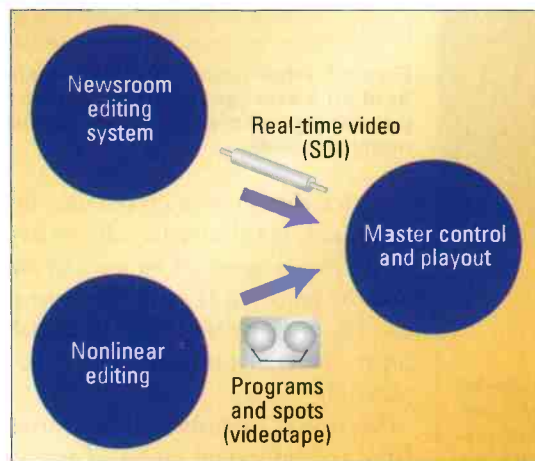

Figure 2. Digital processing islands in post-production, newsroom and master control
**Figure 2. In the IT approach to workflow, the archives are put in the middle of the production chain. This results in an active archive that is accessible to everyone.**
post-production, in the newsroom and in master control. Elsewhere, programs and commercials are still moved around as tape or live video streams. (See Figure 2.)